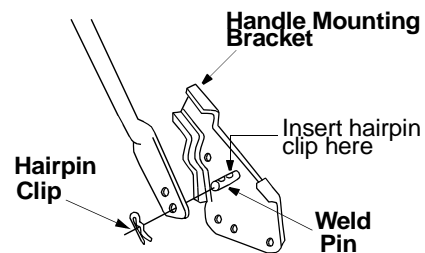

Figure 3
- Remove the hairpin clips from the outer hole in the weld pins on the handle mounting brackets. Using a pair of pliers, squeeze one leg of the lower handle against the handle mounting bracket. Insert the hairpin clip into the inner hole on the weld pin. Repeat on the other side. See Figure 3.